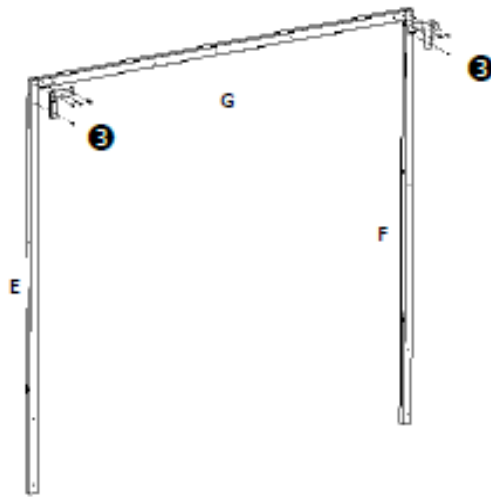

Figure 4: Rear Screen Frame Assembly
2. Lay out three posts of rear screen frame on the ground according to Figure 4. *When laid out properly, the bolt holes on the left and right posts face outward.*